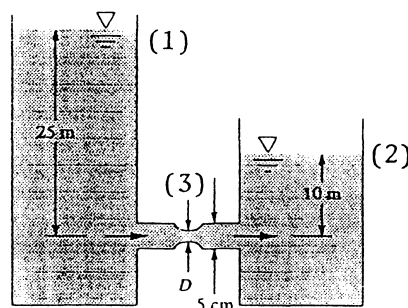

Fig. P3.171
3.171 For the 40°C water flow in Fig. P3.171, estimate the volume flow through the pipe, assuming no losses; then explain what is wrong with this seemingly innocent question. If the actual flow rate is $Q = 40$ m³/h, compute (a) the head loss in ft and (b) the constriction diameter D which causes cavitation, assuming that the throat divides the head loss equally and that changing the constriction causes no additional losses.